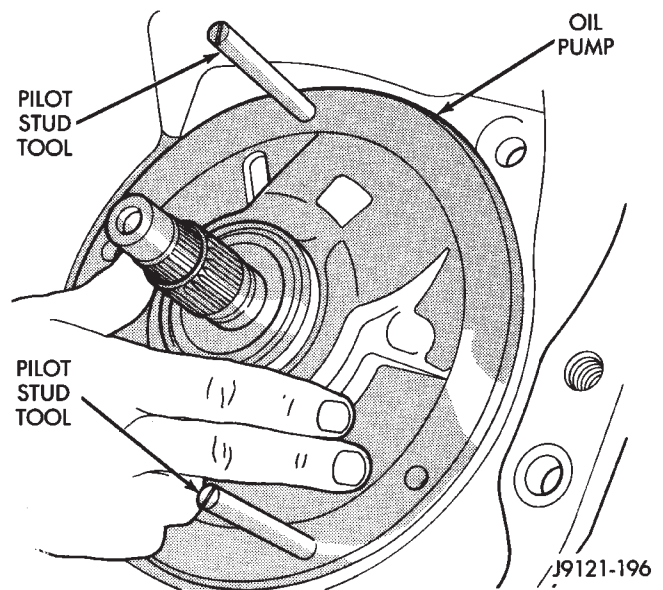
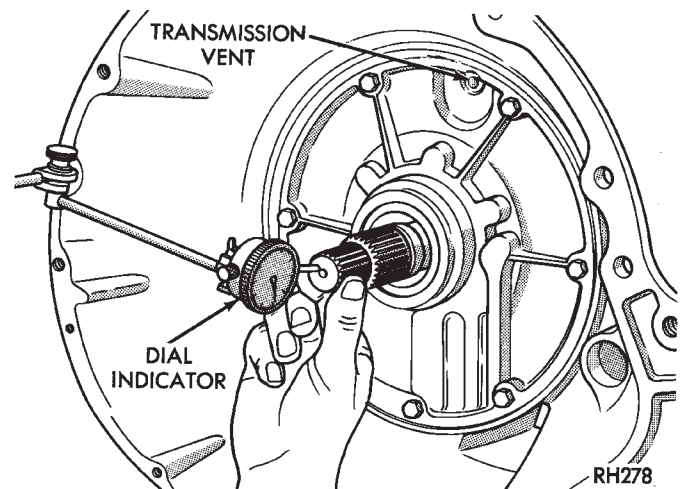

Fig. 132 Installing Oil Pump Assembly In Case
Fig. 133 Measuring Input Shaft End Play
(27) Install oil pump (Fig. 132). Align and position pump on pilot studs. Slide pump down studs and work it into front clutch hub and case by hand. Then install 2 or 3 pump bolts to hold pump in place.
(28) Remove pilot stud tools and install remaining oil pump bolts. Tighten bolts alternately in diagonal pattern to 20 N·m (15 ft. lbs.).
(29) Measure and if necessary, correct input shaft end play as follows (Fig. 133):